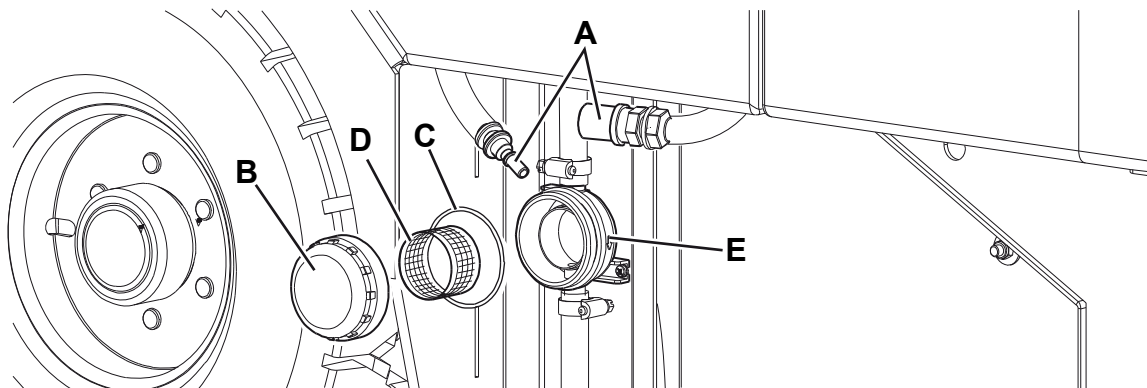

Figure 7
1. Drive the machine on a level floor, engage the parking brake and turn the ignition key (66) to "0".
2. Disengage the quick coupling (A, Fig. 7) from the tank hoses.
3. Remove the left panel (2) to reach the water filter (30).
4. Remove the transparent cover (B) with the gasket (C), then remove the filter strainer (D). Clean and install them on the support (E).